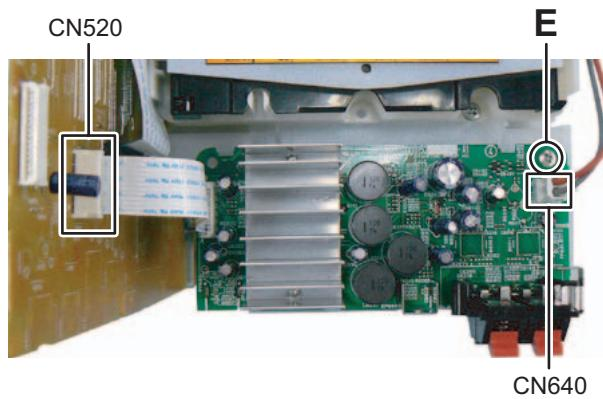

Fig.6
3.1.4 Removing the Amp board (See Fig.6)
- (6) Solder to short land part **j** of pickup. (See Fig.6)
- (7) Release the lock of connector **CN601** to direction of the arrow 2 and disengage the card wire. (See Fig.6)
- Solder to short land part **j** of the pickup then disconnect the card wire from connector **CN601** of the CD servo board. If disconnect the card wire before soldering, pickup is make sure destroyed by static electricity. (See Fig.6)